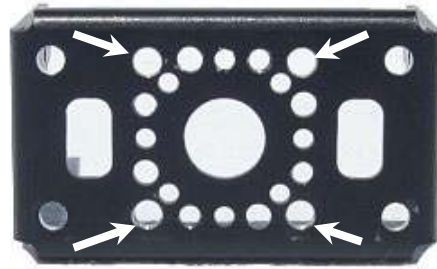

Figure 62
1. Using (8) M2 screws and nuts from the AX-12/18 servo box, install the AX-side bracket to the AX servo as shown in figure 62.